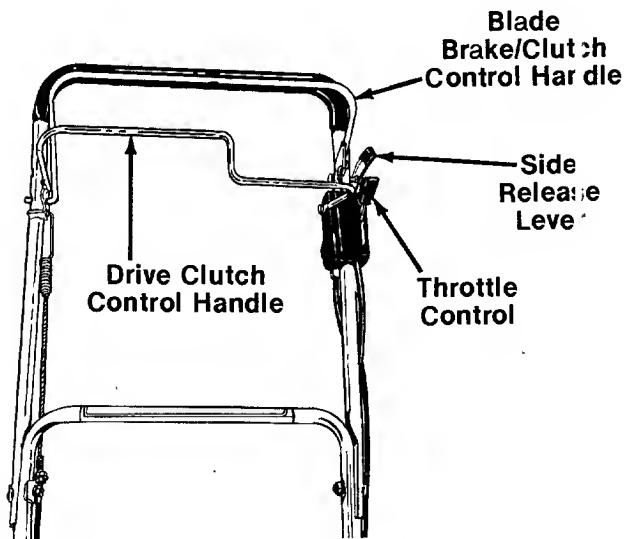

FIGURE 12.
The throttle is located on the left side of handle. It controls engine speed. See figure 12.
To engage the blade, pull the side release lever away from the unit. See figure 12. Pull the blade brake/clutch control handle against the upper handle. Release side lever.
Squeezing the drive clutch control handle engages the drive mechanism to the rear wheels. Releasing the clutch control stops the rear wheels from driving. Release the drive clutch control to slow down when negotiating an obstacle, making a turn or stopping. See figure 12.
2. To engage the blade, pull the side release lever away from the unit. Pull the blade brake/clutch control handle down against the upper handle. Release the side lever. See figure 12.